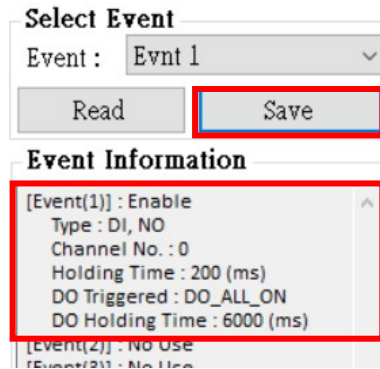

Figure 6.10.12
- J. After setting, select "SAVE" to save as shown in Figure 6.10.12. Complete the list below to display the settings just made.